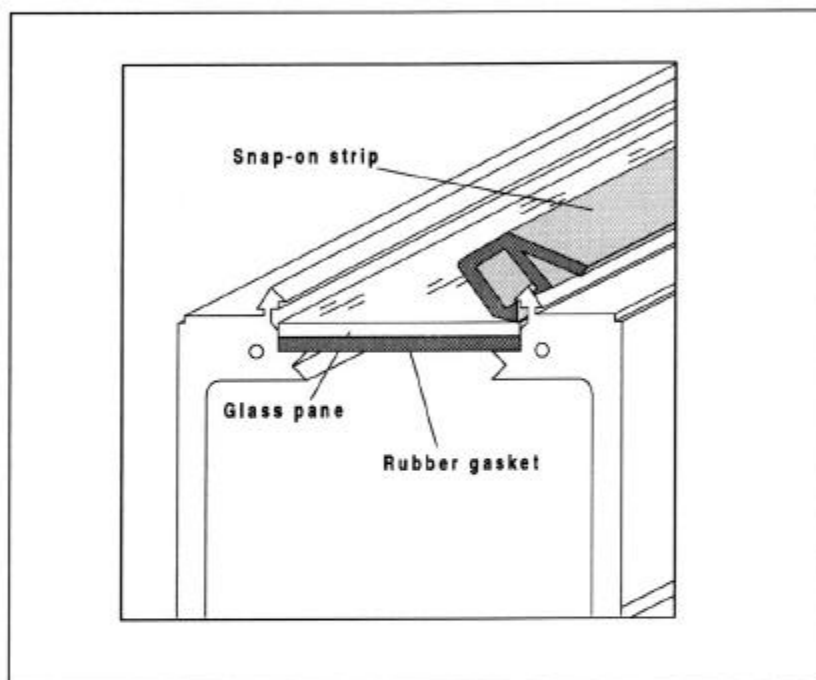

Figure 12-2 Lay the snap-on strip against the inner edge of the casing
4. First tilt the snap-on strip slightly, lay it against the glass pane and with a little pressure insert the locking edge of the snap-on strip into the groove between the pane and the casing (Figure 12-2).